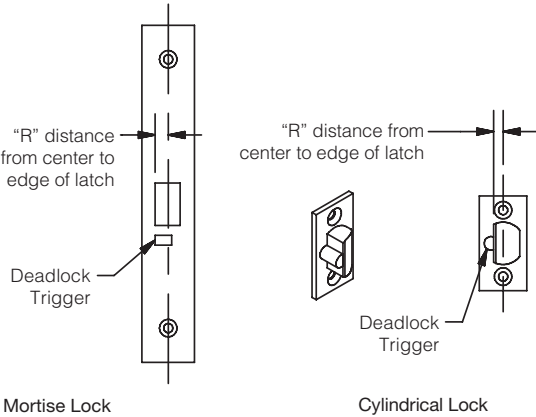

Fig. 1
1. To determine if the Strike Shim positions need adjustment, measure dimension “R” from the center to the edge of the latch. See Fig.1